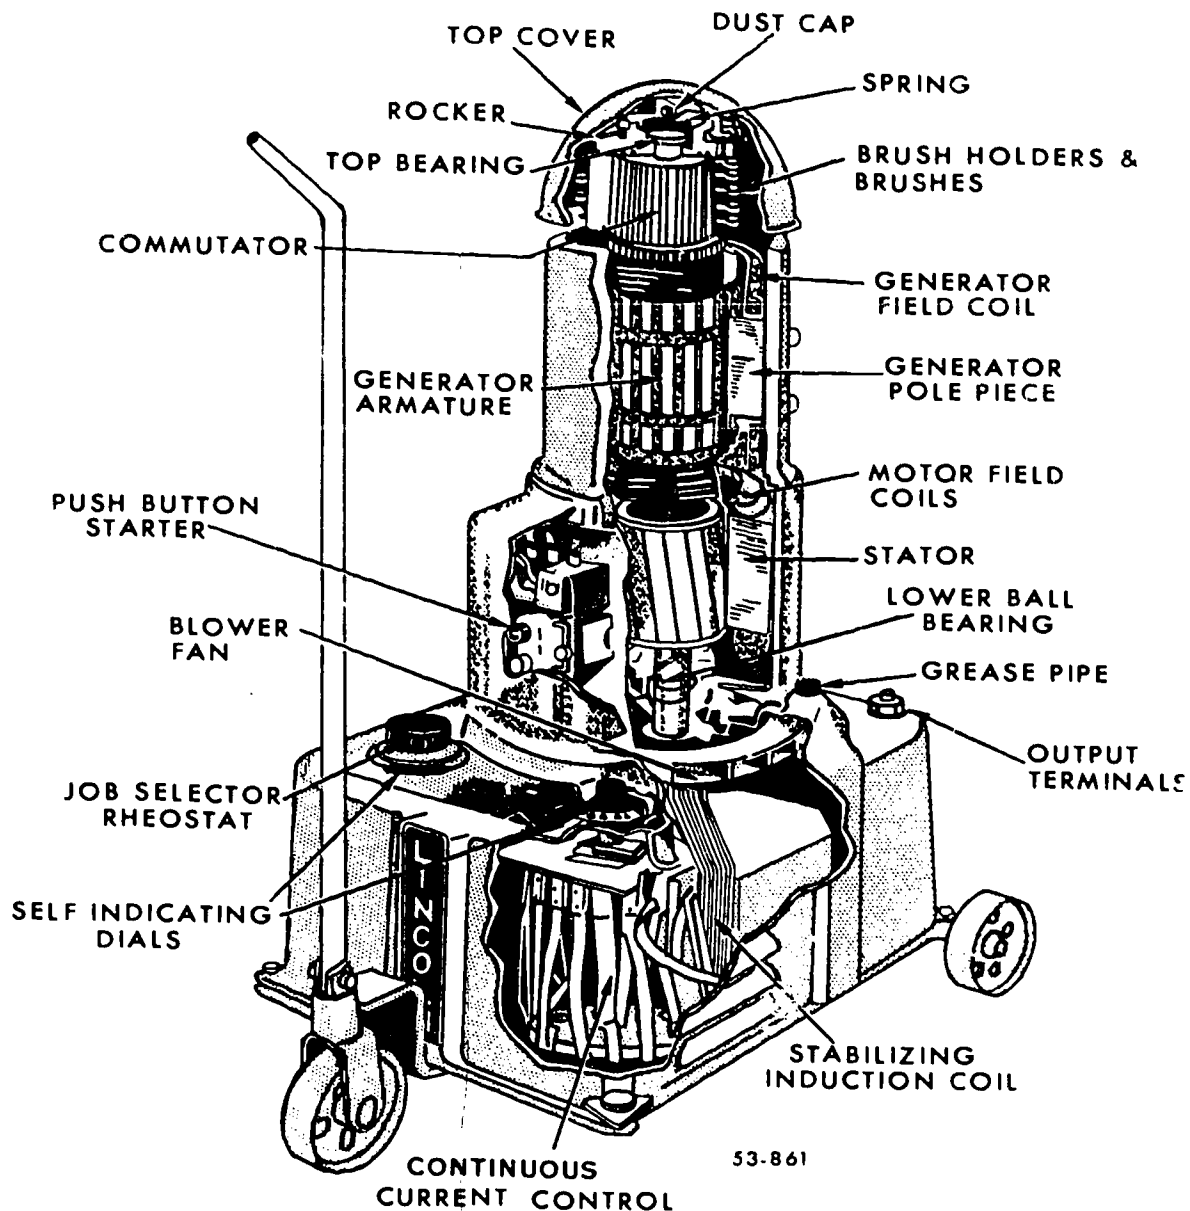

Figure 1-3. Portable motor-generator arc welder.
*Electric motor-driven generator.* The most widely used welding machine is the motor-generator type, operated by electric power to produce DC of the proper characteristics for arc welding. This type consists of a driving motor and a DC generator, with the armature of the generator mounted on the same shaft as the rotor of the driving motor. The shaft is supported at each end by ball bearings, and the machine is made as compact as possible. Two controls for the welding current are usually provided—one for the large increases or decreases and the other for small changes. Some machines provide a switch for changing polarity, while others require changing the position of the welding cable leads. A pushbutton switch located on the control panel permits convenient starting and stopping of the machine, and provides overload protection for the driving motor. A voltmeter and ammeter, or a combination of the two, permit you to set the machine for a prescribed output. Some machines use mechanically operated dials to show the voltage and amperage. Most machines are mounted on a chassis to permit moving them in the shop. Both horizontally and vertically mounted sets are available. Figure 1-3 illustrates, on a vertically mounted motor-generator arc welder, the component parts that are common to both types. Motor-generator welding sets are rated in terms of welding current output—such as 100, 200, 300 amp, etc. Current ratings represent the amount of current which the machine will generate continuously for 1 hour without exceeding a specified temperature rise. These sets are capable of delivering more than the rated current for a short time without damage to the machine.